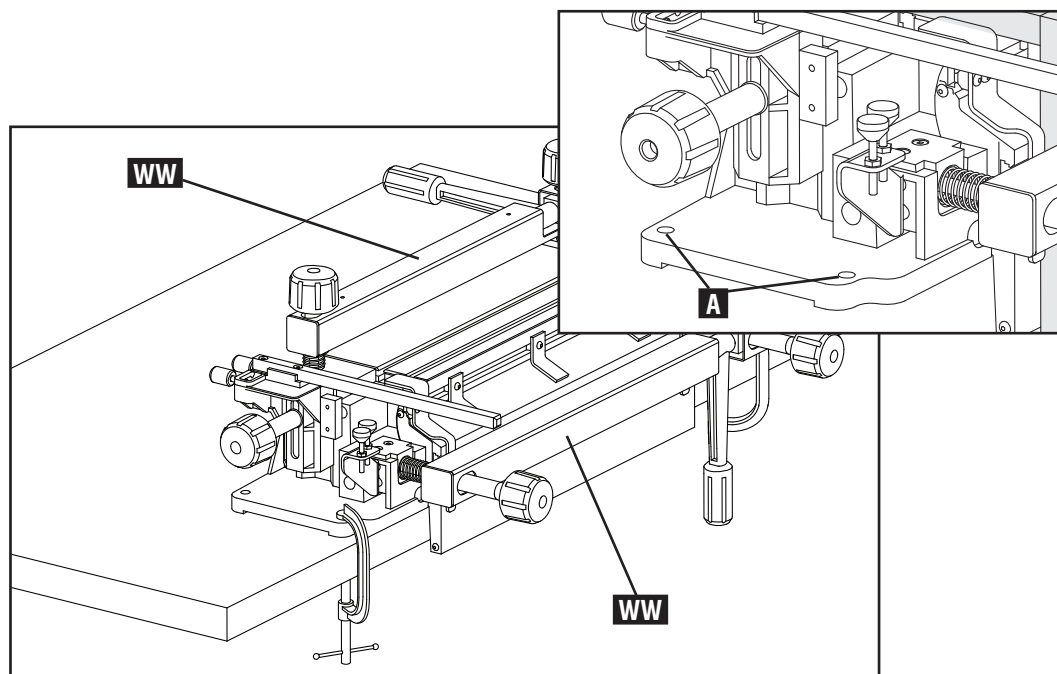

Fig. C1
The OMNIJIG® base is designed so it can be either clamped to the edge of a sturdy workbench (as shown in Fig. C1) or bolted to the table through the holes (A) Fig. C1 provided in the base. The OMNIJIG® should be secured using one of these mounting methods at all times.
NOTE: When carrying the jig, grab the workpiece mounting bars (WW) Fig. C1 for best support.